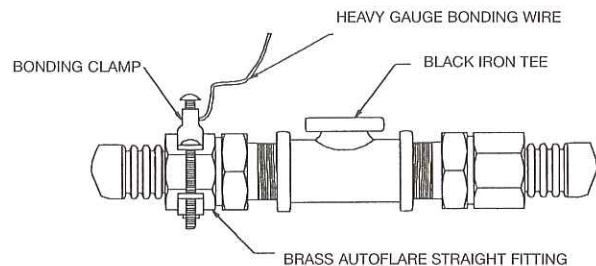

Figure 4-21
- For bonding of the **TracPipe**® system, a bonding clamp must be attached to the brass AutoFlare® fitting adapter (adjacent to the pipe thread area – see Figure 4-21) or to a black pipe component (pipe or fitting) located in the same electrically continuous gas piping system as the AutoFlare® fitting. The corrugated stainless steel portion of the gas piping system **SHALL NOT** be used as the bonding attachment point under any circumstances. Bonding electrode conductor sizing shall be in accordance with Article 250 (Table 250-66) of ANSI/NFPA 70. The bonding is a requirement of the National Electrical Code.
- If possible, avoid running the bonding jumper a long distance through the building. The connection should be as short as possible. Gas meter should be near the electrical service if possible. If not, the bond can be connected at any point near the electrical service per Figure 4-21.